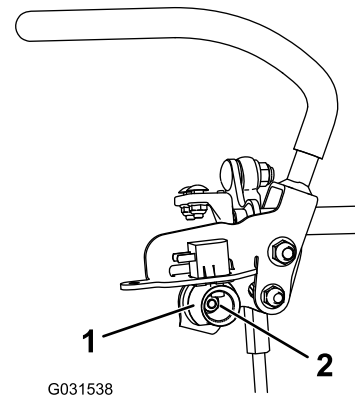

Figure 73
6. Loosen the nut holding the cam (Figure 73).